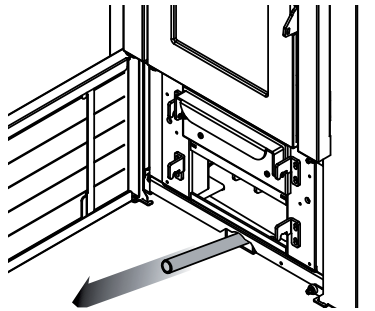

Fig.12.6
- Take out the lever for moving the turbulators and removing the soot (Fig. 12.6).